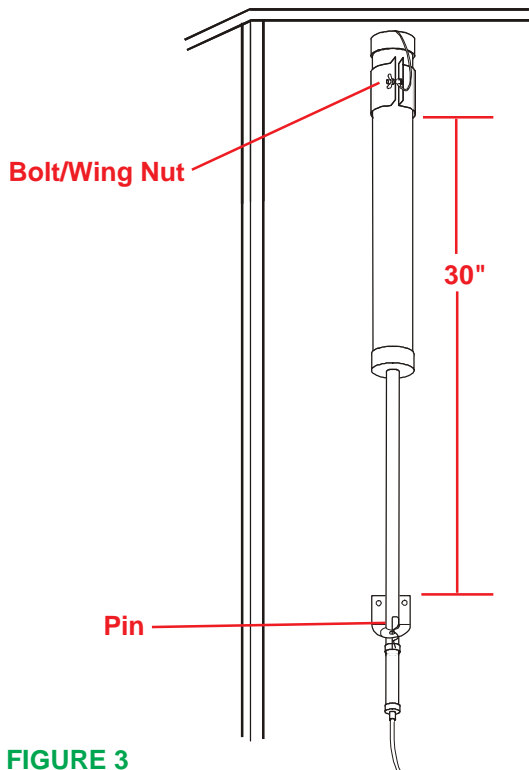

FIGURE 3
Step 3. Place antenna tube in bracket and install bolt through bracket and end of retaining strap for plastic cap, Figure 3. Tighten wing nut.
Step 4. Install lower bracket 30" below top bracket with screws provided, Figure 3.